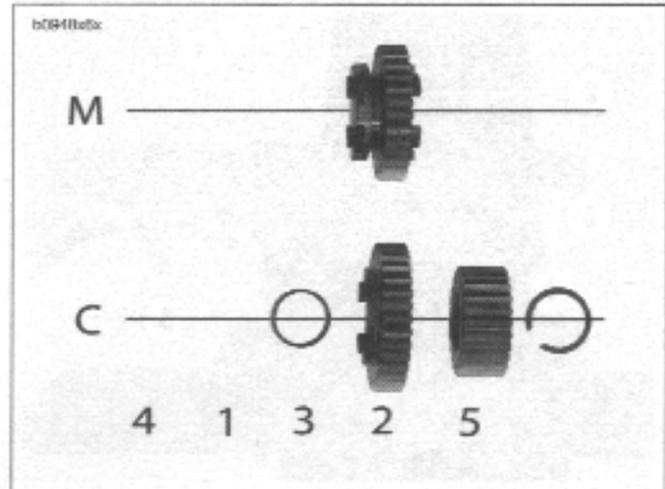

Figure 6-55. Transmission Parts Identification
- See Figure 6-55. As each component is removed, place it on a clean surface in the exact order of removal.